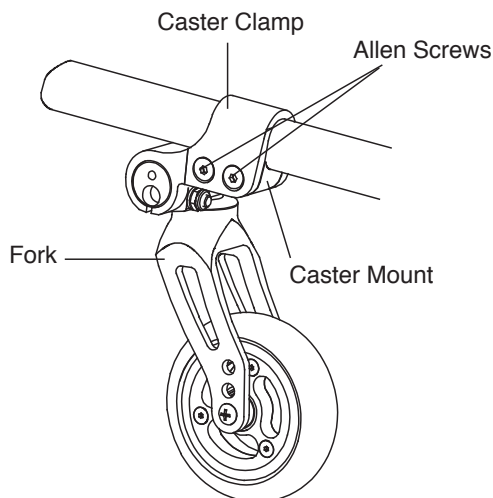

Figure 96
1. Remove the four Allen Screws that secure the caster clamp to the caster mount. See Figure 96.